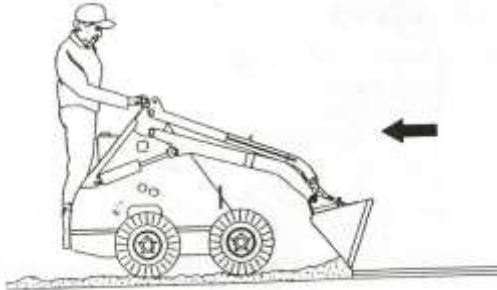

Figure 15
1. To level a filled area, tilt bucket forward and drive machine backwards to drag bucket and spread material, as shown in Figure 15.